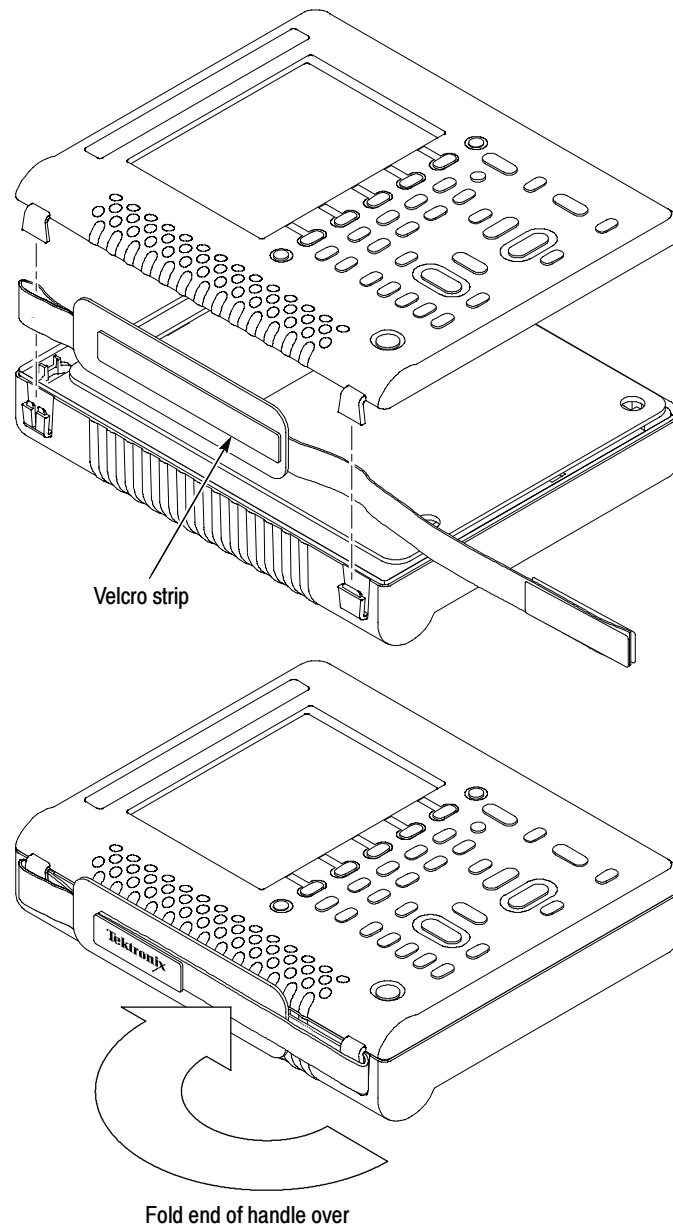

Figure 17: Installing the handle
5. Slip the handle into the guides of the back cover as shown in Figure 17.